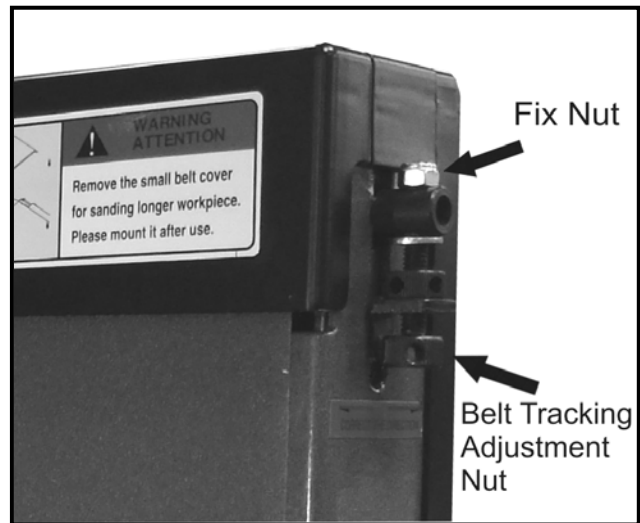

Figure-8 Belt Tracking adjustment
3. Loosen the “fix nut” shown in figure-8.
4. Check if the sanding belt is tracking forward or backward. Turn the adjustment nut (shown in figure-8) counter-clockwise to move the belt forward. Turn the adjustment nut clockwise to move the belt backwards.